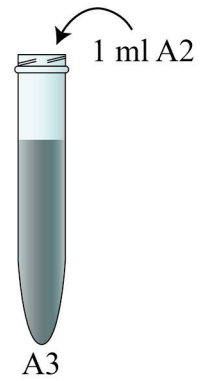

Fig. 12
11. Use a P1000 micropipette and a new tip to transfer 1 ml mixture from tube “A2” to tube “A3” (Fig. 12). Hence, the mixture in tube A3 is a 10-fold dilution of the “A2” mixture. Mix tube “A3” by turning it upside down three times.